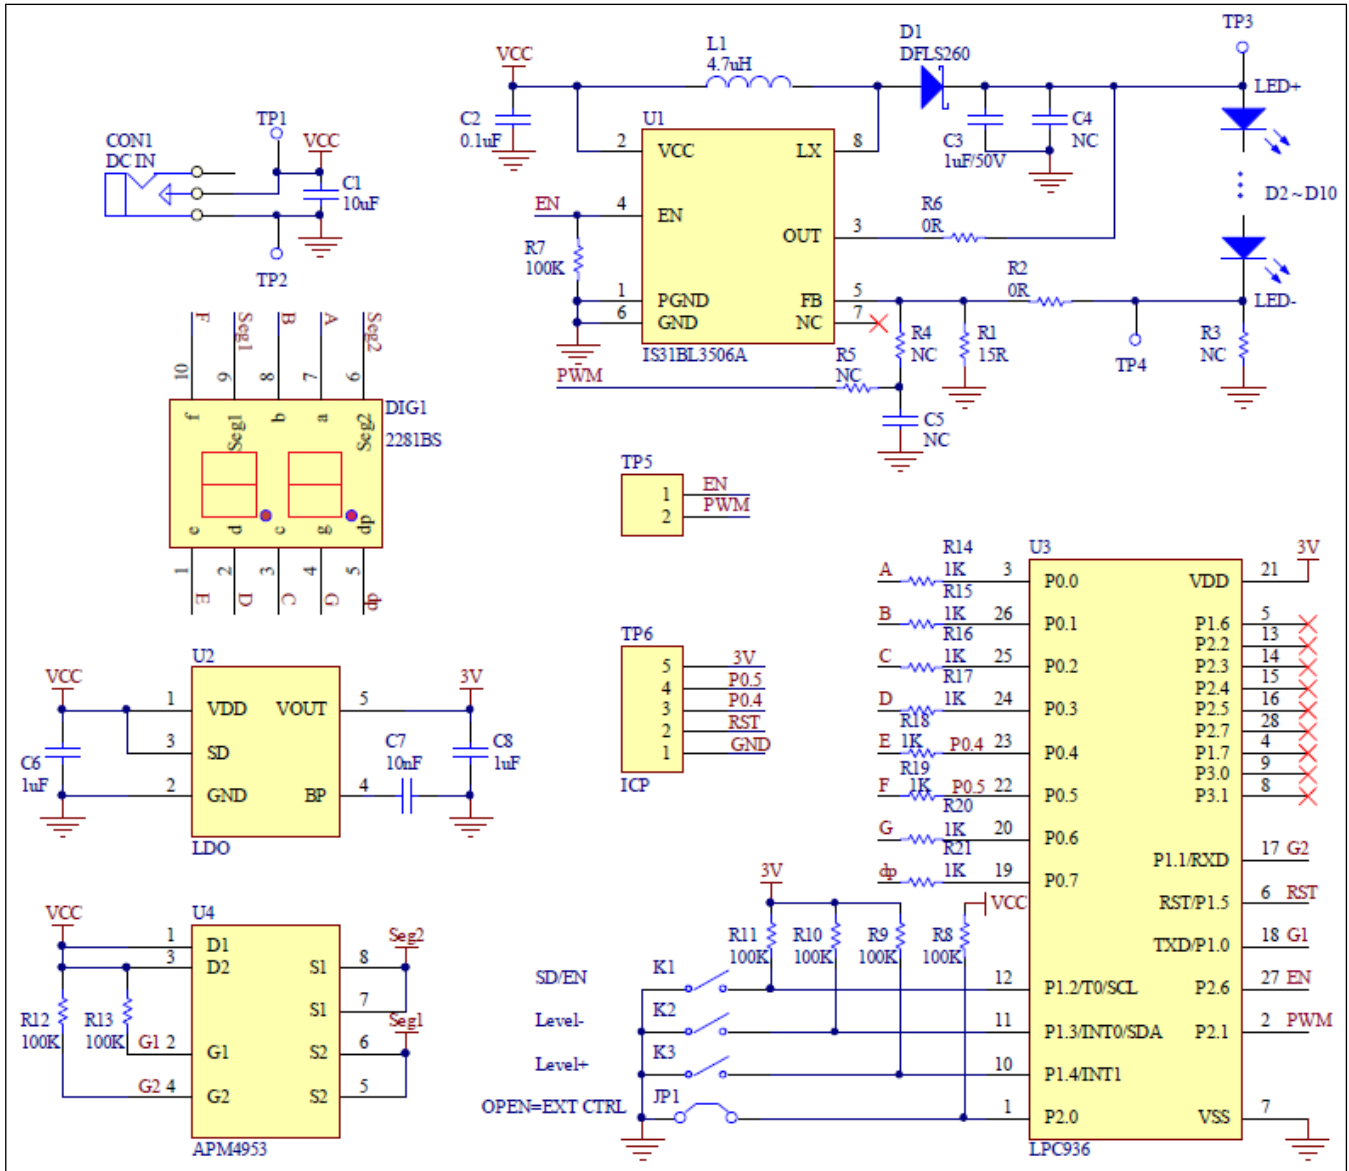

Figure 2: IS31BL3506A Application Schematic
*Bill of materials, refer to Figure 2 above.*